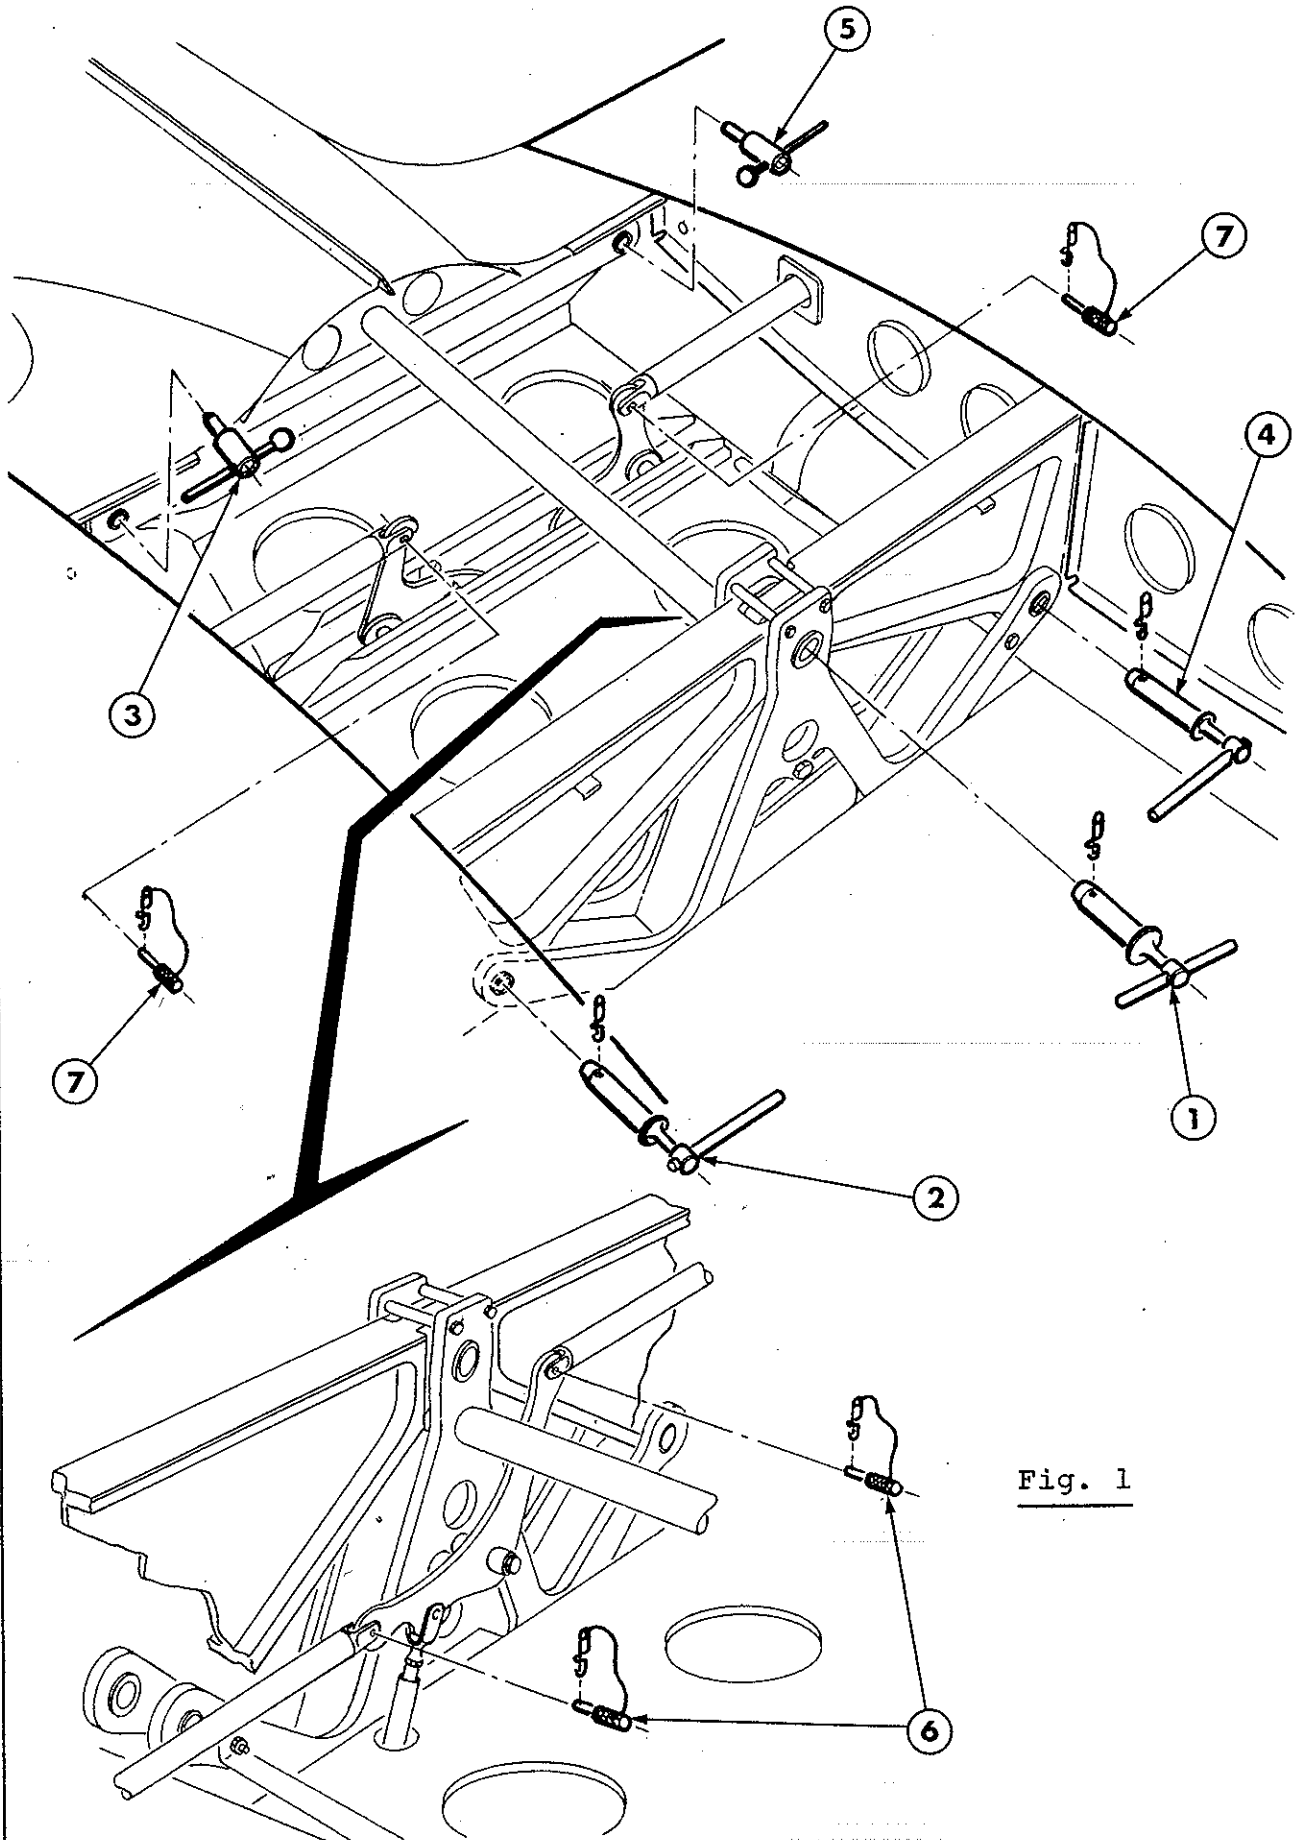

Fig. 1
1.2 Wing Assembly (see Fig. 1)
- Insert right-hand wing and push in the centre bolt (1) half way, then install the outer bolt (2) and the rear one (3).